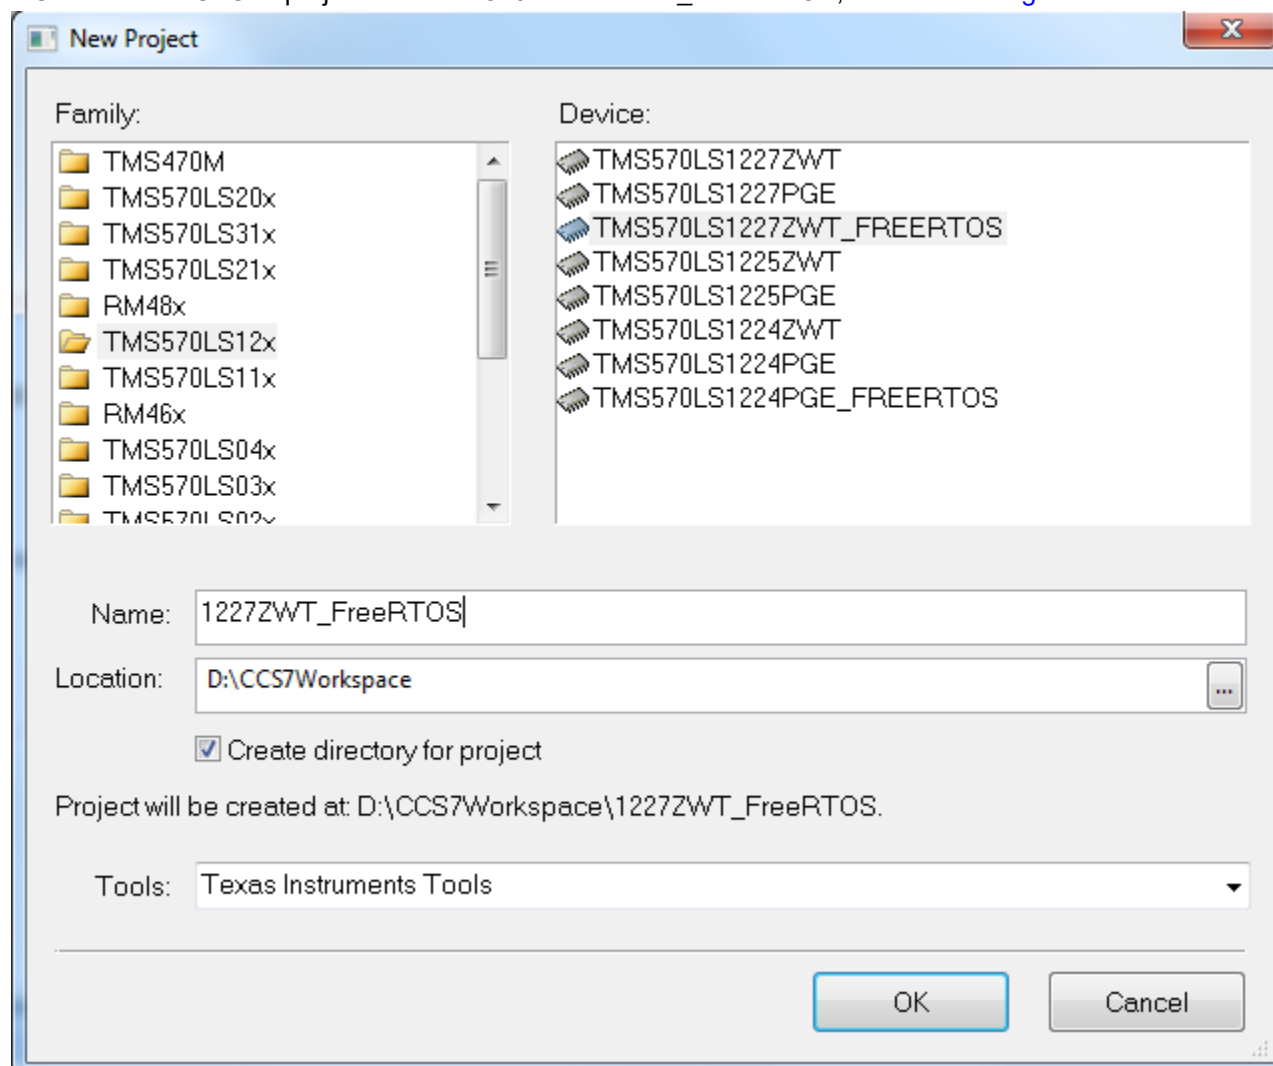

Figure 4-1. Create a HALCoGen Project
1. Create a HALCoGen project with TMS570LS1227ZWT_FREERTOS, as shown in Figure 4-1.